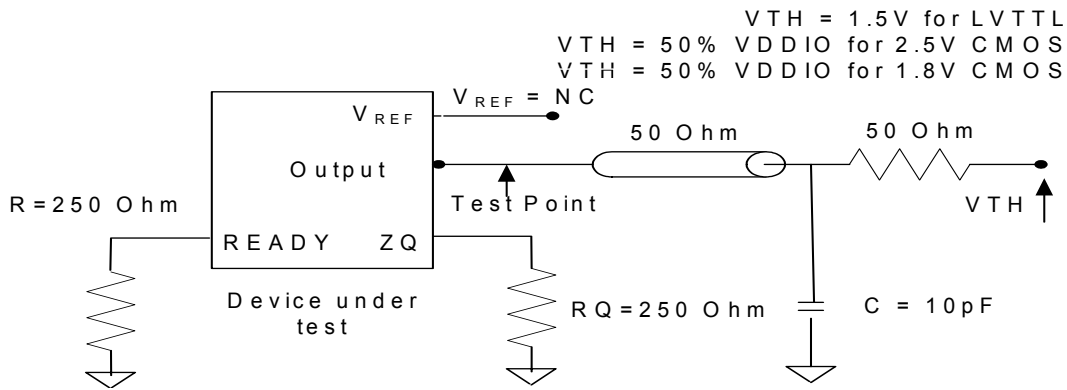

Figure 5. Output Test Load for LVTTTL/CMOS
27. Parameters specified with the load capacitance in Figure 5 and Figure 6.